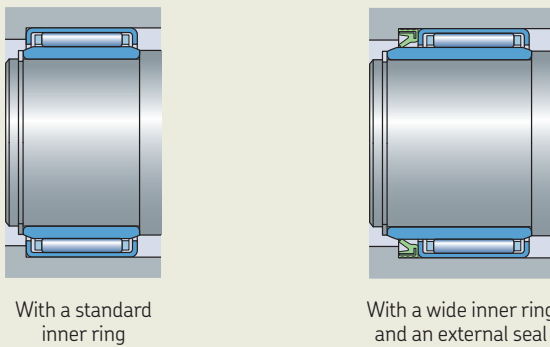

Fig. 13
- Certain sizes of drawn cup needle roller bearings can be combined with a needle roller thrust bearing with a centring flange, AXW series (fig. 13 and *Needle roller thrust bearings*, page 895), to accommodate combined radial and axial loads.